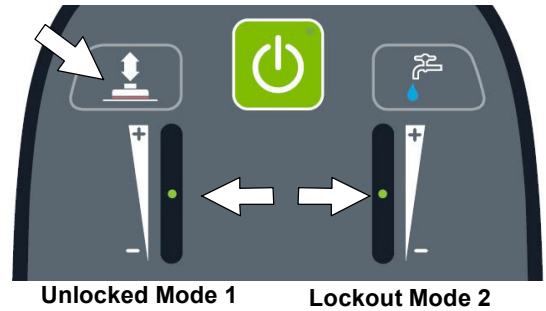

FIG. 162
3. Press the brush pressure button to toggle between the two modes (Figure 162). The LED of the selected mode will blink until saved.